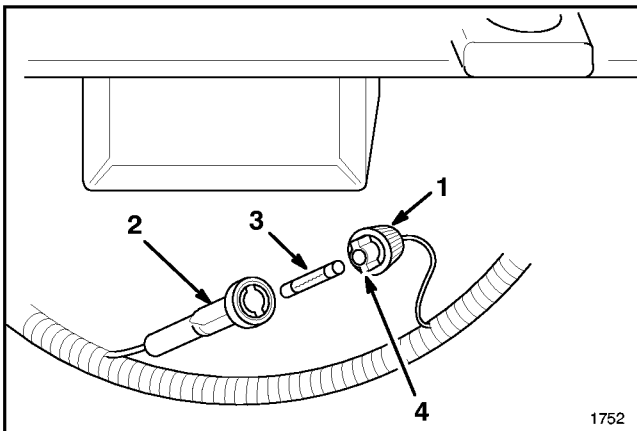

Figure 30
1. Push the two fuse holder sections together. Rotate fuse holder cap to open fuse holder (Fig. 30).